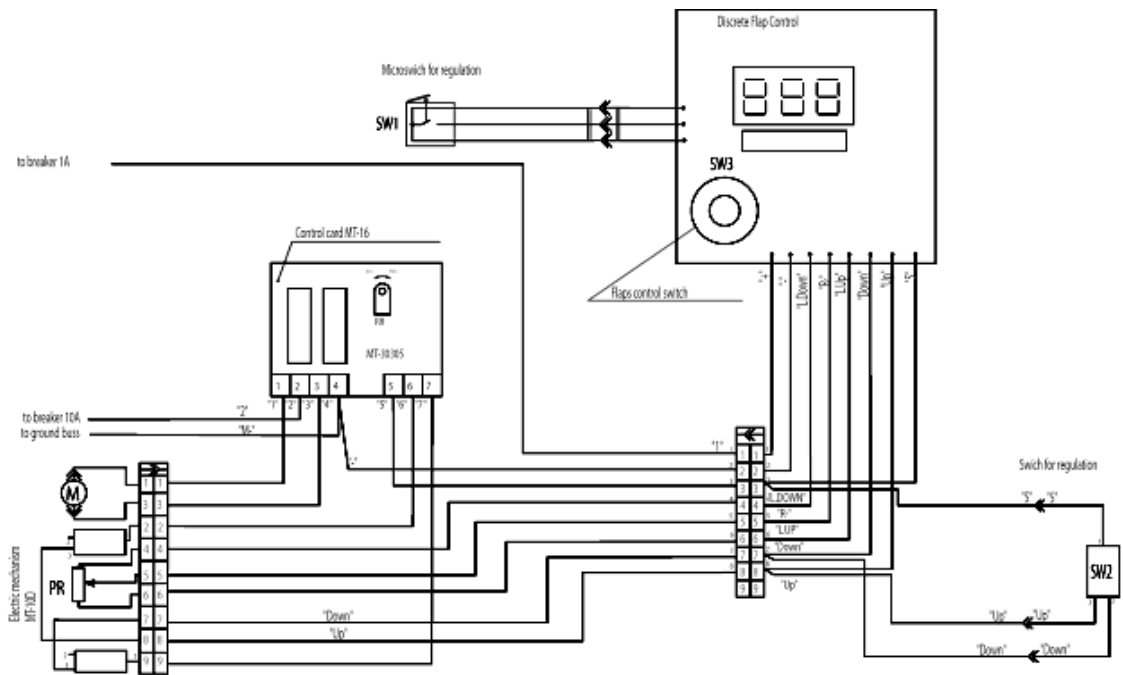

Fig. 27-50-9
B. Flap Deflection Adjustment (Fig. 27-50.9)